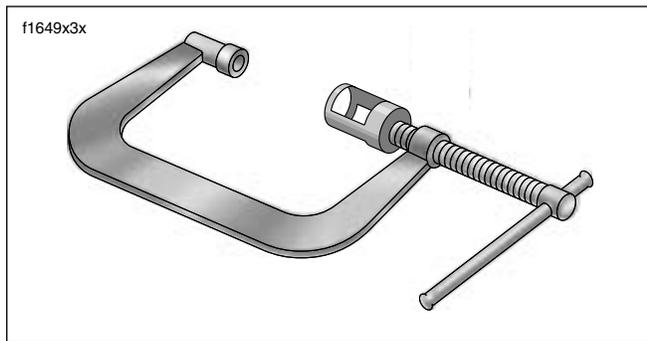

Figure 3-10. Valve Spring Compressor (Part No. HD-34736B)
3. See Figure 3-10. Obtain the VALVE SPRING COMPRESSOR (HD-34736B) and proceed as follows: